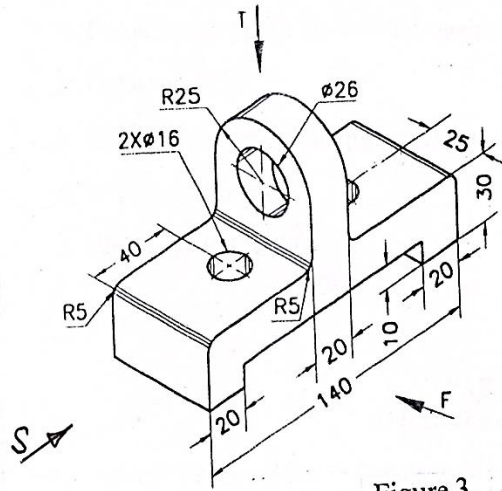

Figure 3.
- III The pictorial view of the object shown in Fig.3 . Draw the front view in the direction of F and top view in the direction T and side view in the direction S.